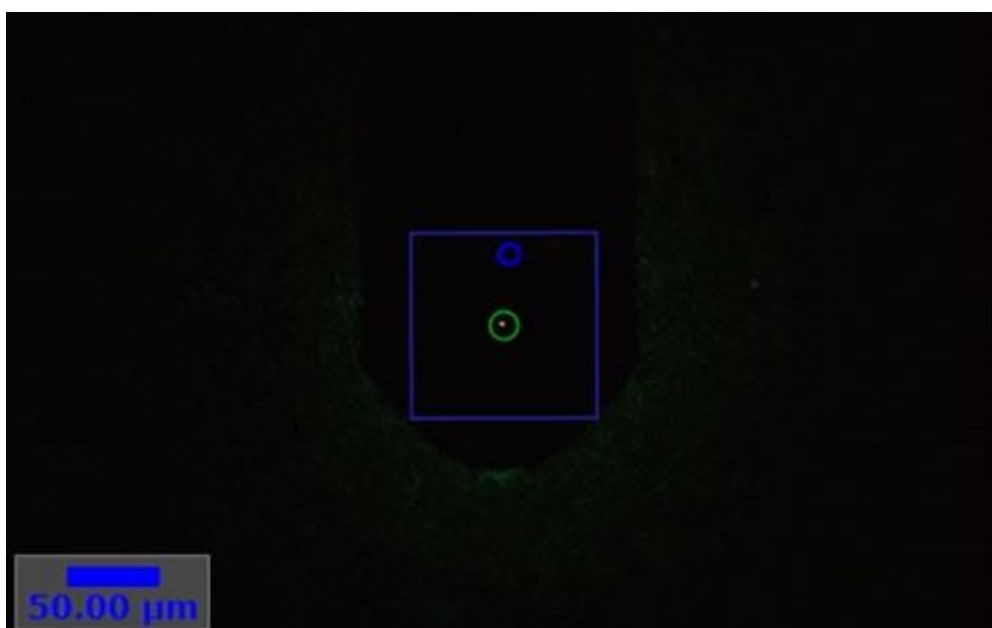

Fig. 2: SNOM cantilever with transmitted light (top view)
10. Slightly change the cantilever position to maximize the intensity of the light spot like in Fig. 2. Start with the z-axis.